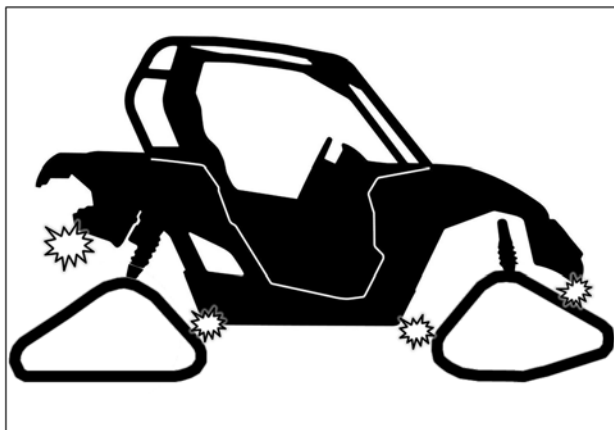

Fig. 32
2. Verify for possible contact between Track System and lower fender corners. See Fig. 32